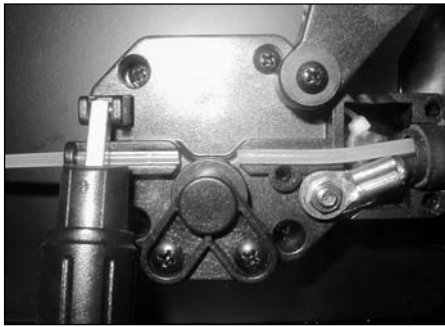

Figure 6
9. Reattach torch cable cover onto drive deck, making sure wire liner is aligned with drive roller, but not touching the roller (see figure 6).